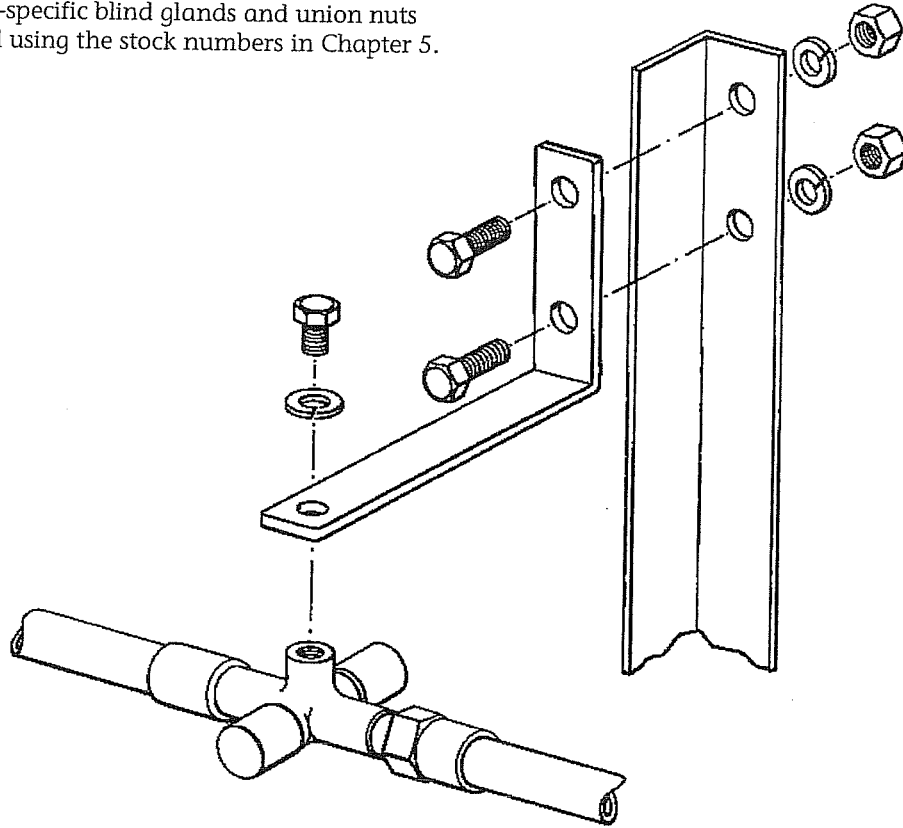

Figure 2-13
For floor-mounted manifolds, screw a mounting bracket to each header extension and then screw the mounting bracket to a header support leg. The header support leg is then secured to the floor. (Figure 2-13)
3. Screw a mounting bracket to a header support leg using 3/8" X 7/8" bolts, 3/8" lock washers, and nuts. (Figure 2-13)
4. Temporarily fasten the mounting bracket to the header extension using a 3/8" X 1/2" long cap-screw and a 3/8" lock washer. (Figure 2-13)